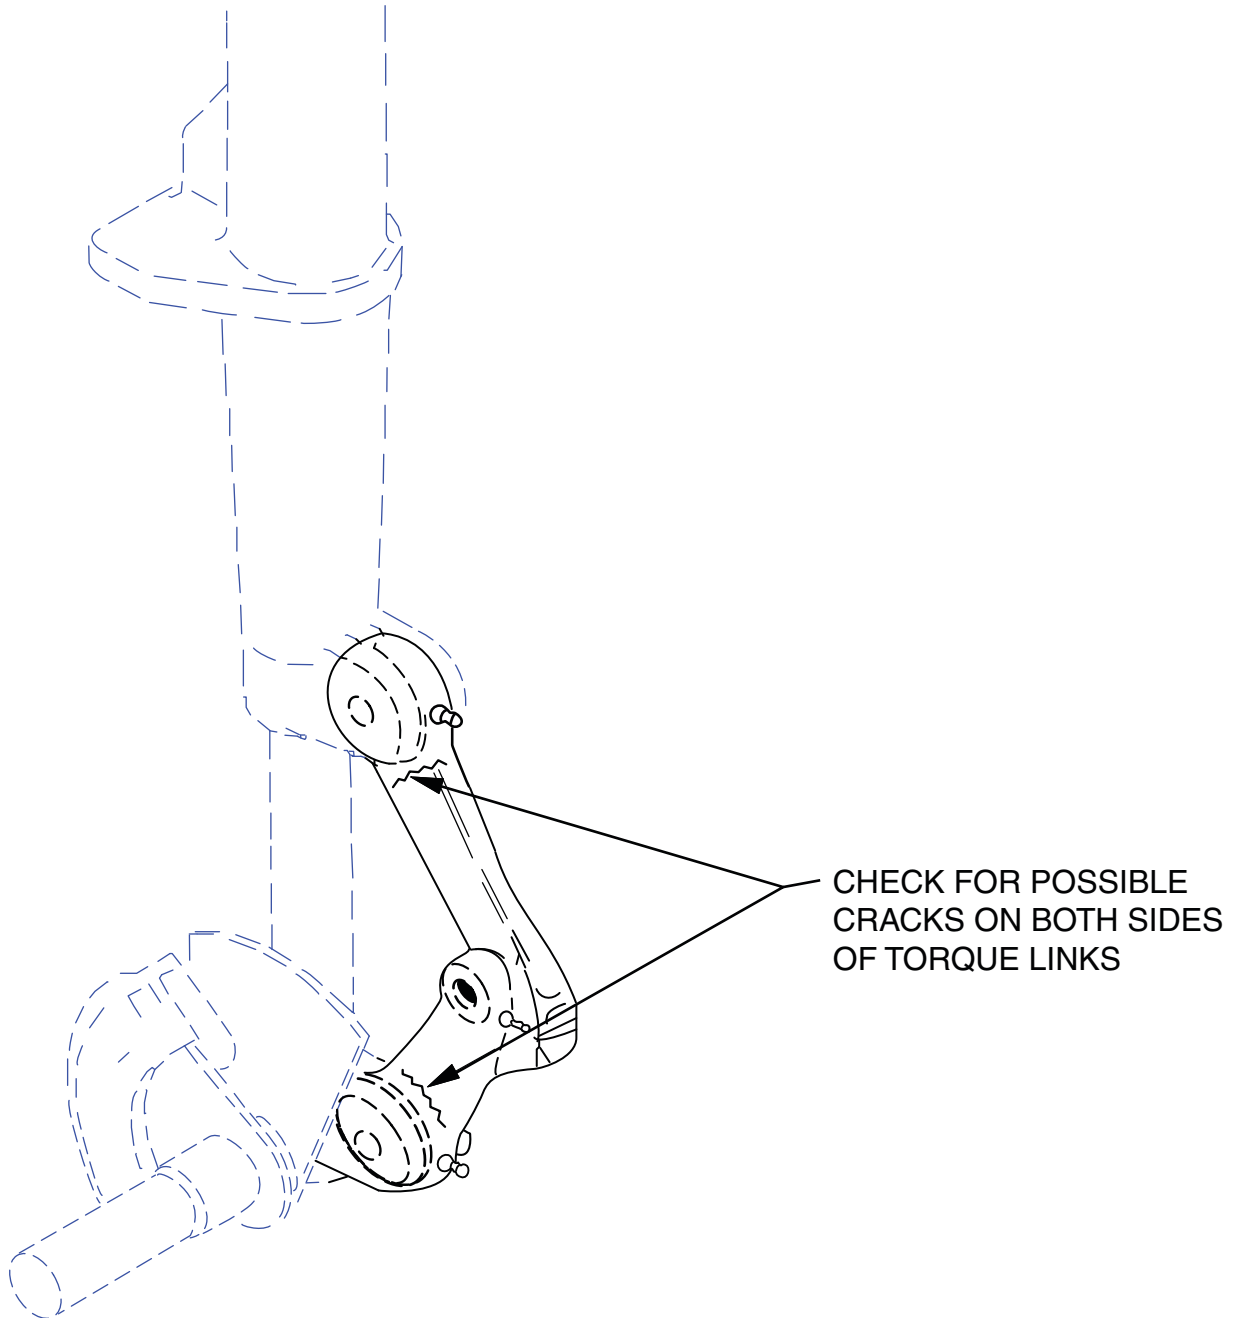

Figure 1
1. Locate the torque links, which are a component of the main landing gear, both left and right sides. There are a total of 4 torque links per aircraft. See Figure 1.
2. Remove paint from the area to be inspected, at the locations identified in Figure 1. (Use Cee-Bee A-202 paint stripper or equivalent).
4. Perform fluorescent penetrant inspection of the areas identified in Figure 1 per AC 43.13-1B.